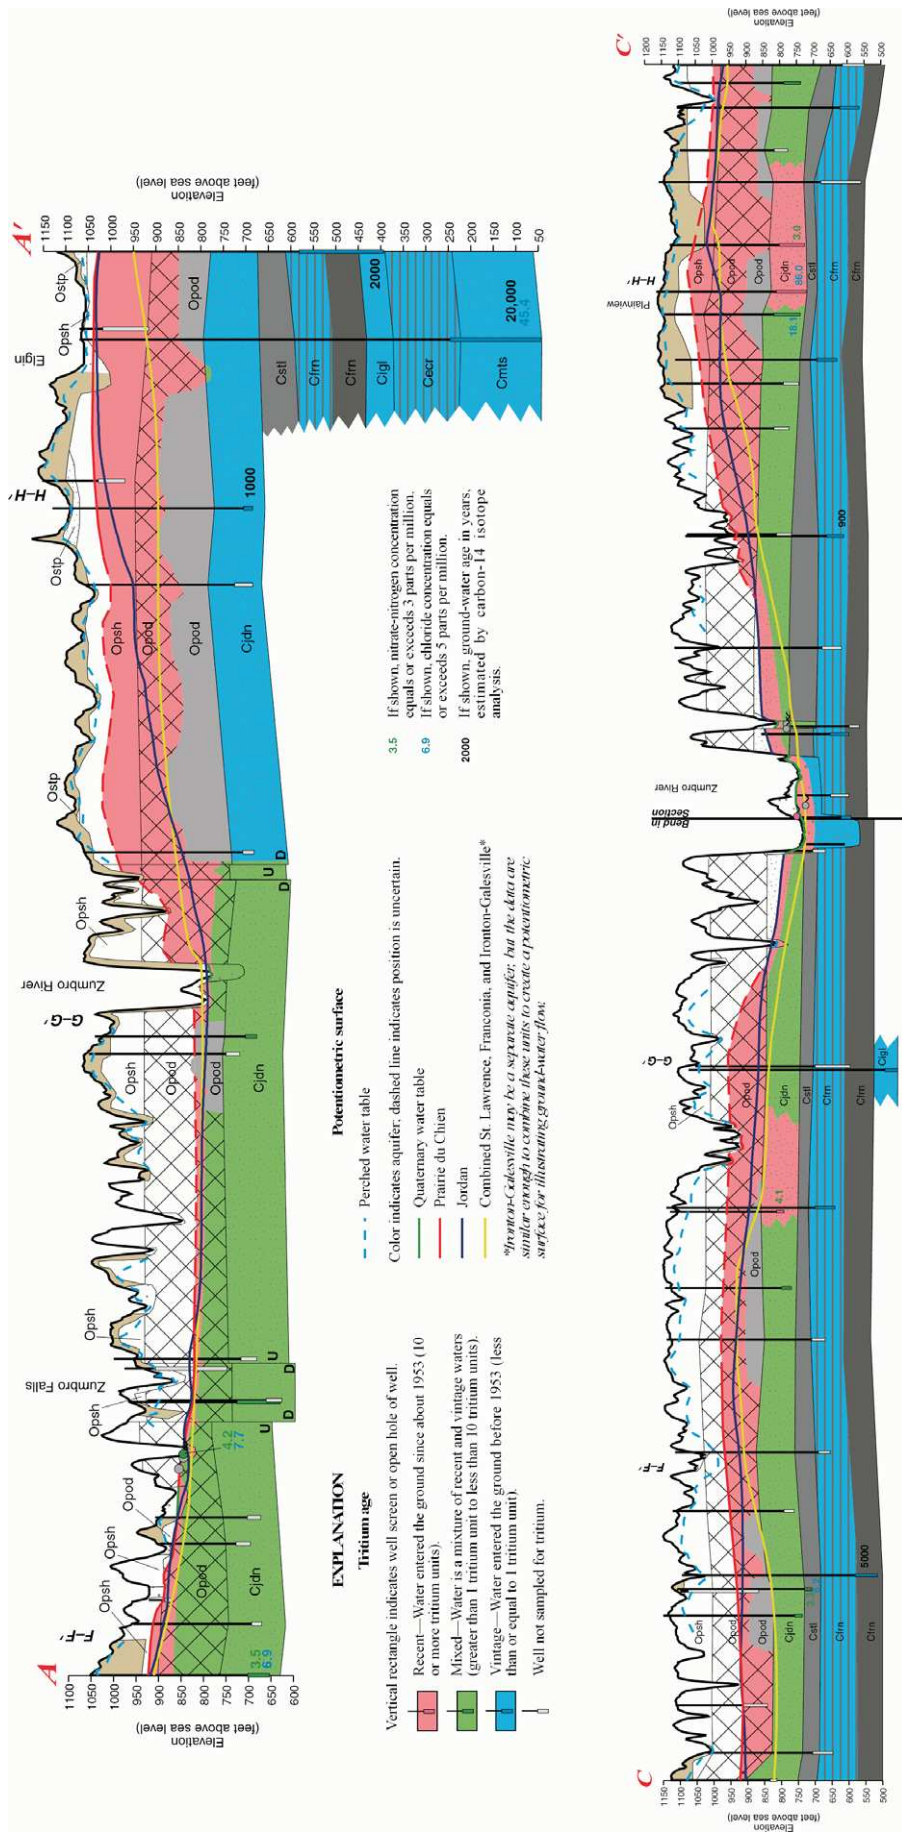

Figure 6. Selected hydrogeologic cross sections showing ground water residence time.
The predicted sensitivity can be tested by looking at the ground water residence time as shown in the cross sections in Figure 6 on page 7. The pink, green, and blue areas shown in these cross sections represent the age of the ground water, also known as ground-water residence time. This is the approximate time that has elapsed from the moment the water infiltrated the land surface to the time it was pumped from the aquifer. Tritium is a naturally occurring radioactive isotope of hydrogen. Concentrations of this isotope were greatly increased between about 1953 and 1963 by above-ground nuclear tests (Alexander and Alexander, 1989). This isotope decays at a known rate. Because of this, the proportion of recently recharged water (within about the last 50 years) can be estimated based on its tritium content. Water samples with tritium concentrations of 10 or more tritium units (TU) are considered to be recent water, the water having entered the ground in about the last 50 years. Water samples with tritium concentrations of 1 TU or less are classified as vintage water, which entered the ground before about 1953. Water samples with tritium concentrations greater than 1 TU and less than 10 TU are considered mixed waters. They are a mixture of vintage and recent waters.
Recent age ground water (based on tritium content) is found in some areas covered by thick till and beneath apparently unfractured Oneota Dolomite, such as in the Plainview area along cross section C-C (Figure 6), implying that horizontal flow paths (possibly due to karst development) may be important in some places. The Prairie du Chien aquifer typically has recent age ground water, based on tritium content. The Jordan aquifer often has mixed age ground water, based on tritium. In the Franconia and deeper aquifers, ground water is often vintage age based on tritium.
Deep ground water can be quite old in Wabasha County. Three carbon-14 samples were collected from wells completed at different depths near the City of Elgin (cross section A-A) (Figure 6). The shallowest well tested (completed in the Jordan Sandstone) had a carbon-14 age of 1000 years. The Elgin well completed in the Franconia and Ironton-Galesville Formations had a carbon-14 age of 2000 years. The deep Mt. Simon Elgin well had a carbon-14 age of 20,000 years.